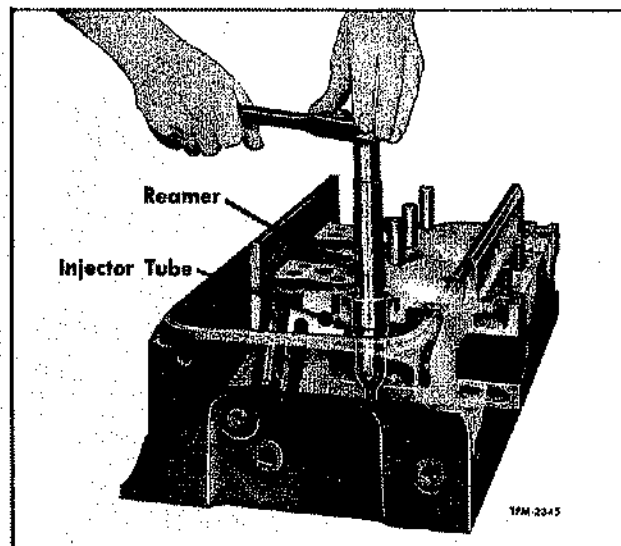

Figure 82—Reaming Injector Copper Tube Bevel Seat for Injector Body Nut
2. Apply a few drops of light cutting oil on reamer flutes, then carefully insert reamer into injector tube until the reamer contacts the bevel seat (fig. 82).